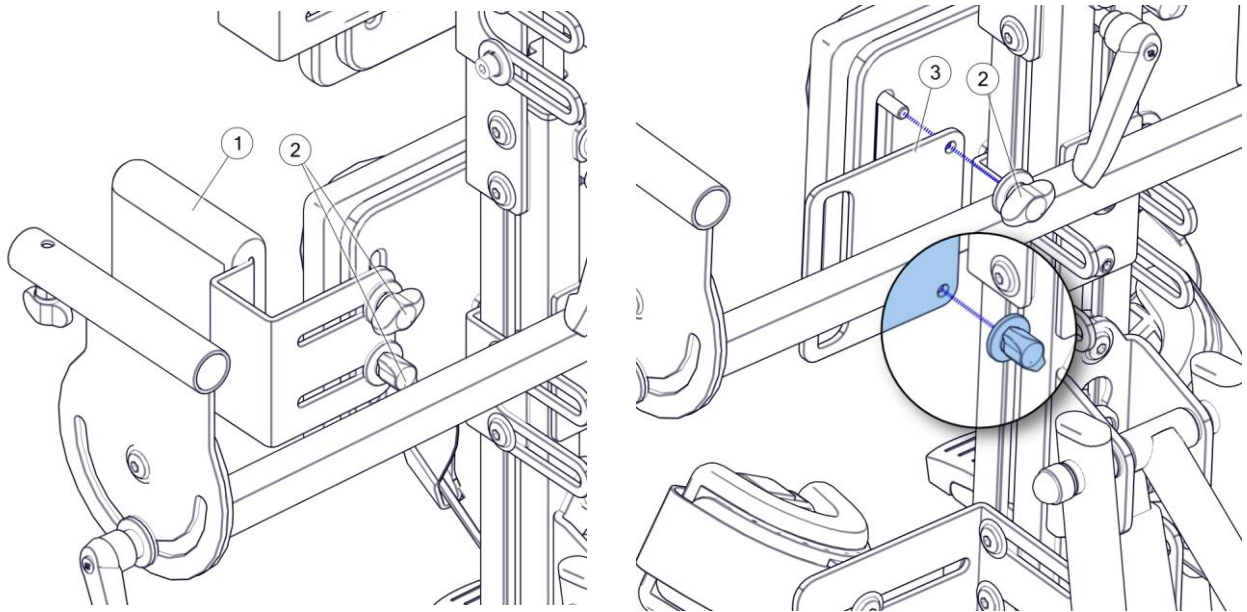

Figure 22
8.3. Corrective hip strap - Figures 22 and 23